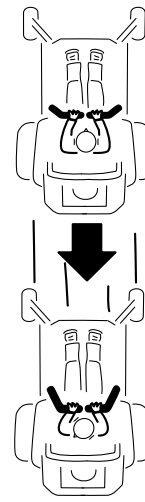

Figure 21
2. To go backward, look behind you and down as you slowly pull the motion control levers rearward (Figure 21).
To go straight, apply equal pressure to both motion control levers (Figure 21).